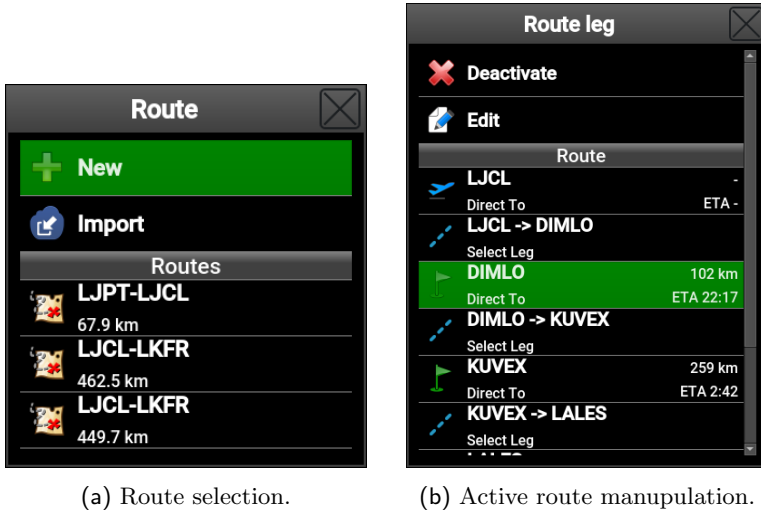

Figure 2.13: Route window depends on active route status.
With no active route a window opens, like shown in Figure 2.13 left. Routes are sorted alphabetically. Route name is typically defined by a takeoff - landing airfield pair.
When the *Route* command is issued and some route is already active, a different window appears. See Figure 2.13 right.
- Insert the stick into Aetos and select the **Import** command. See Figure 2.13 left.
- Select the *New* option from Figure 2.13 left.